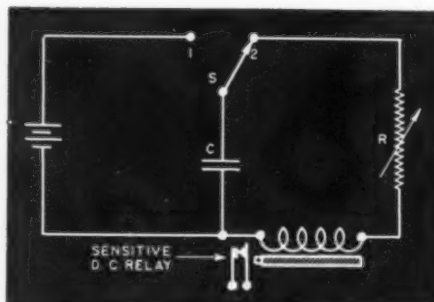
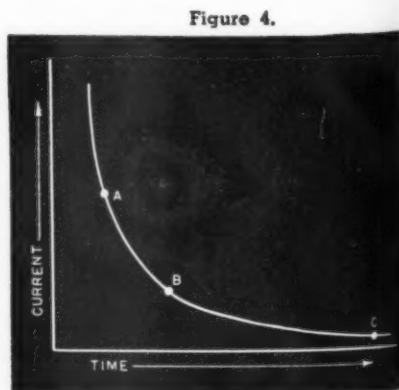

Figure 3.
Figure 4.
**SYSTEM 1.** This system, most rudimentary of delay devices, is illustrated by Figure 3. The circuit embraces a capacitor C, d.c. source, double-position, single-pole switch S, timing resistor R, and sensitive d.c. relay. With the switch in position 1, the capacitor is charged. In switch position 2, the capacitor discharges through the circuit containing the resistor and relay, the decaying current following the general shape of the curve shown in Figure 4. At first, the current falls rather rapidly and then tapers off to a
slower rate of decay, until it is completely spent, although by proper choice of R and C values the curve may be made more gradual throughout or steeper at will. Likewise, if a single capacitance value is chosen, the resistor may be made variable, as shown in Figure 3, and a large number of time curves obtained by setting R at various values.
Depending upon the minimum current requirement of the relay, the contacts will be controlled over a portion of the time-current curve, such as between A and B in Figure 4. After reaching a minimum value (as at B), the armature of the relay will be released. If the relay contacts are normally open, the relay will close an external circuit during the delay interval. If, on the other hand, the contacts are normally closed, the relay